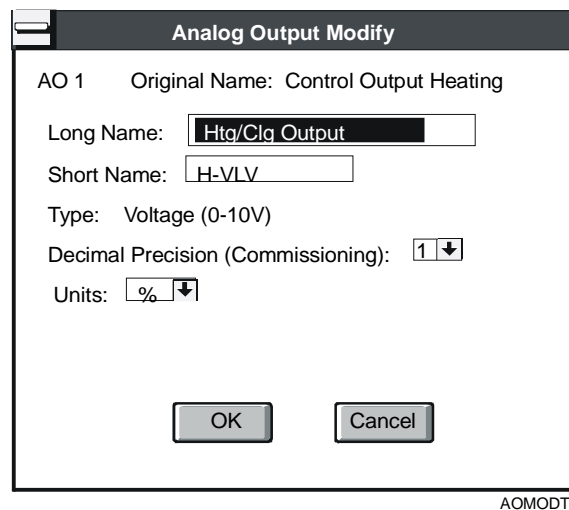

Figure 8-11: TC-9100 Controller Analog Outputs Window
1. Double-click on the point you want to change. The Analog Output Modify dialog box displays (Figure 8-11).